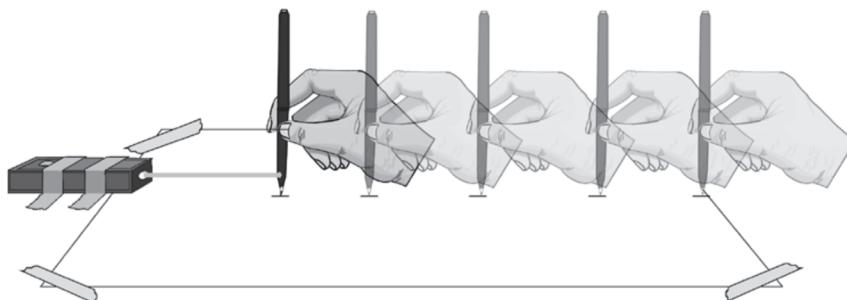

Figure 2 – Laser Line Drawing Illustrated
2. Turn the laser diode module on. Hold a pencil (LI-7) in a vertical position at the right edge of the paper where the light beam hits the center of the pencil. Mark the paper with a small dot or dash. Refer to Figure 2.
2. Turn the laser diode module laser diode module on. Hold a pencil (LI-7) in a vertical position at the right edge of the paper where the light beam hits the center of the pencil. Mark the paper with a small dot or dash. Refer to Figure 2.